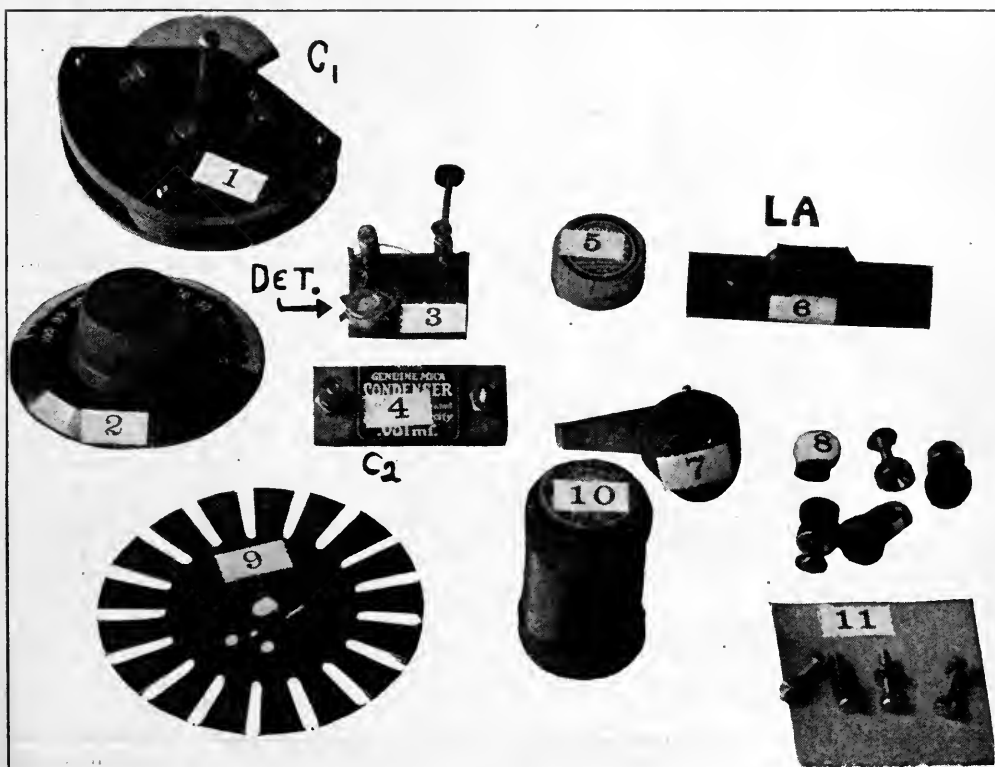

FIG. 1
**T**HE parts used in the construction of this receiver are photographed before assembly in Fig. 1.